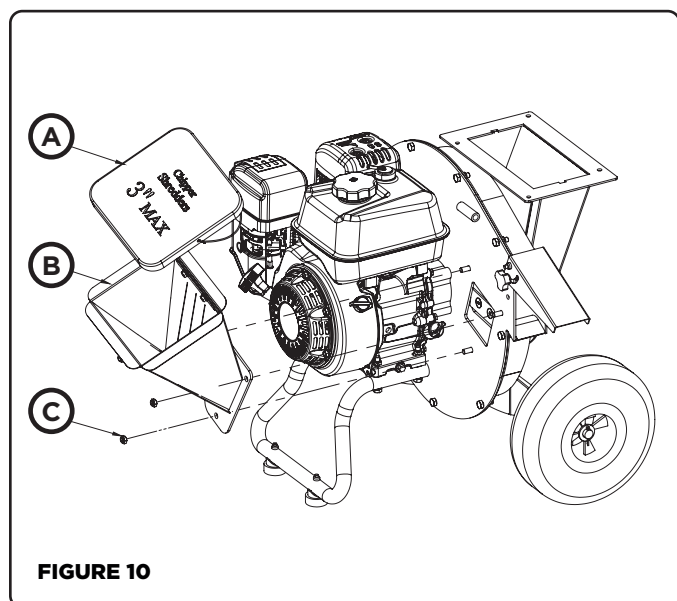

FIGURE 10
2. Remove the nuts securing the chipper cone to the front of the chipper, then remove the chipper cone to access the knives. See Figure 10.